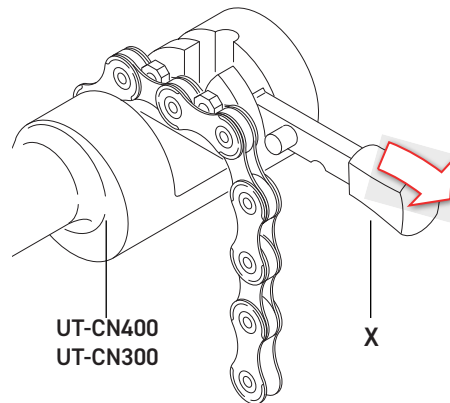

Fig.5
- Prepare the tool **UT-CN400 (12s) / UT-CN300 (11s / 12s)** by positioning the tongue in open mode (X - Fig. 5)
- fit the link to be opened in tool **UT-CN400 (12s) / UT-CN300 (11s / 12s)** (Fig. 5) taking care to end with an internal link: